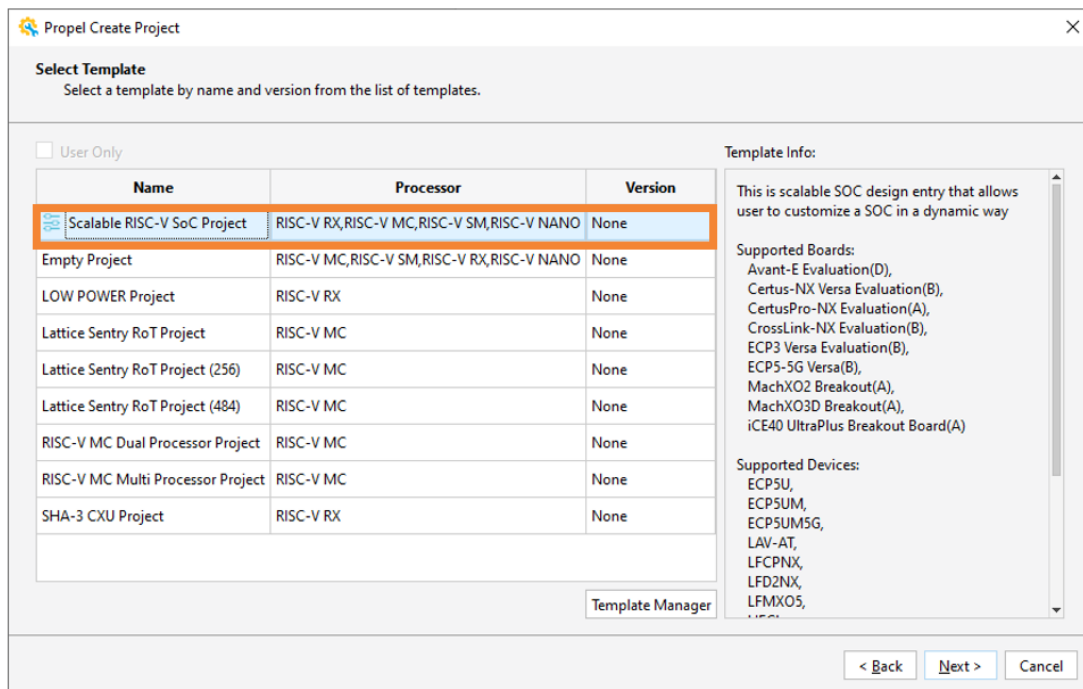

Figure 6.4. Select Template Page
2. Click **Next**. Choose **Scalable RISC-V SoC Project** (Figure 6.4).